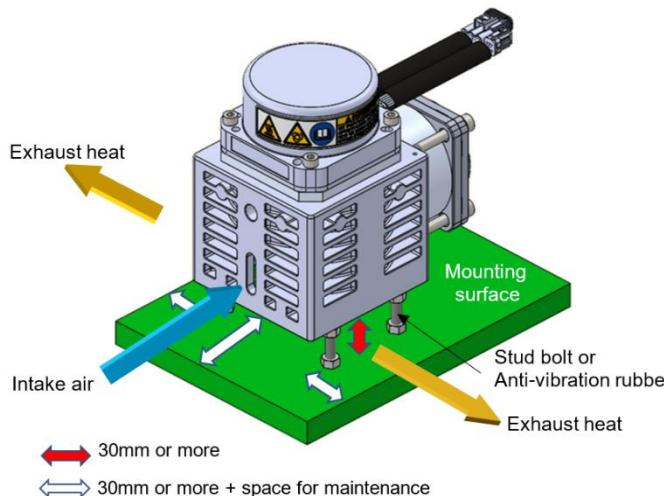

Figure 1
- Use anti-vibration rubber if a large amount of vibrations are transferred to the embedded surface. See figure 1. for reference.